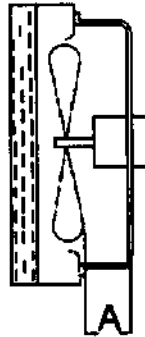

Figure 6 — Fan Blade Setting
Five (5) wires should be run from thermostat subbase to the 24V terminal board in the unit. A five conductor, 18 gauge copper, color-coded thermostat cable is recommended. The connection points are shown in Figure 6.